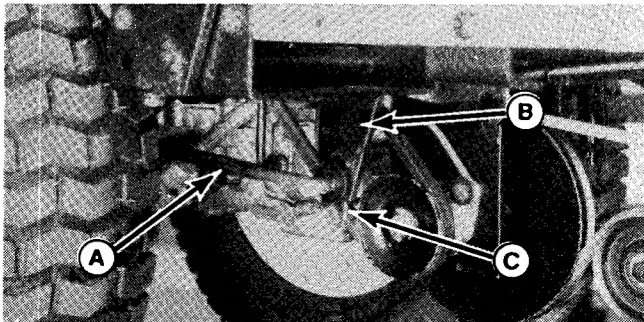

Figure 12.
11. Install end of lift rod (A, Figure 12) through hole in the tractor lift lever (B). Secure with spring clip (C).
4. Remove spring clip (C, Figure 12) from other end of lift rod (A). Remove rod from lift lever (B).